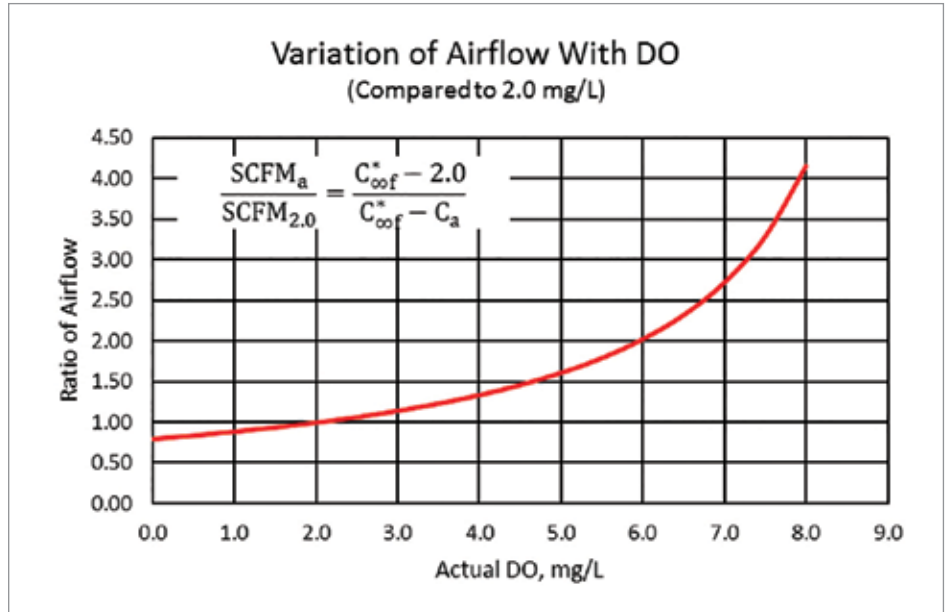

Figure 1: Non-Linear Relationship of DO and Airflow
- DO concentration change with air flow. [See Figure 1.]
The principles of mass transfer dictate that material moves from a location of high concentration to low concentration. The greater the difference the more driving force there is for the transfer and the faster it will occur. The result is that the  $OTE_t$  will drop as the actual DO concentration rises. [See Figure 1.]